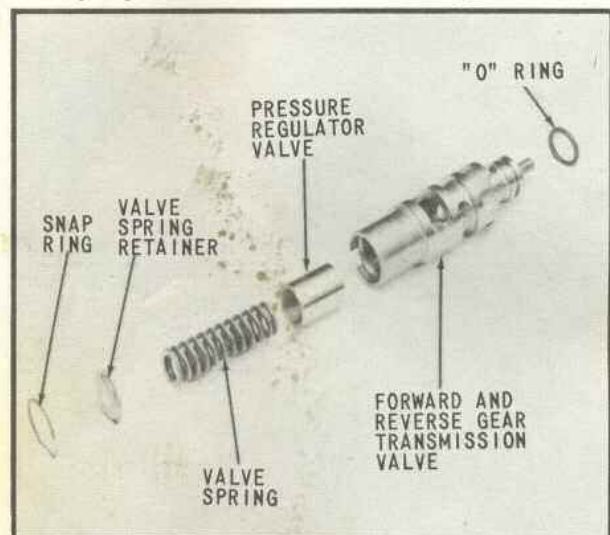
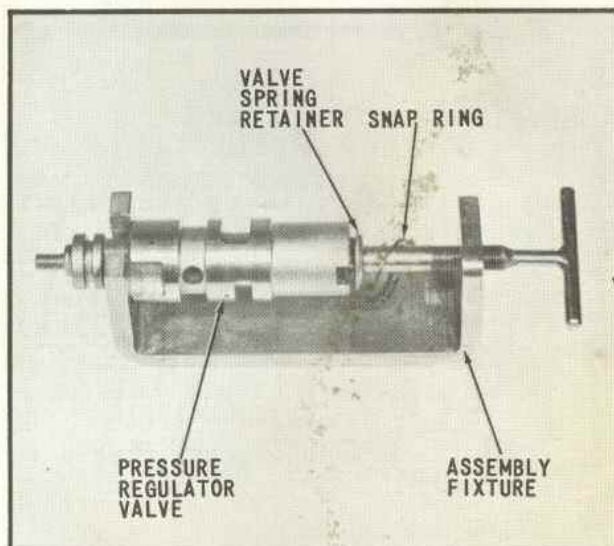

Fig. 70 Exploded View of Valve and Spring Assembly
Fig. 71 Control Valve Assembly in Fixture
70. Collect the valve and spring assembly components, as shown in (Fig. 70) on a clean surface and note carefully the following:
71. After carefully checking the pressure regulator valve and the bore in the forward and reverse gear transmission valve for dirt and burrs, assemble all valve and spring components shown in (Fig. 70).
72. Place the assembled parts in a suitable assembly fixture, (Fig. 71). Turning handle of threaded plunger, compress the regulator valve spring until the groove for the snap ring in the pressure regulator valve is fully exposed. Install snap ring shown in (Fig. 71). The "O" ring shown in (Fig. 70) should be installed on end of valve.